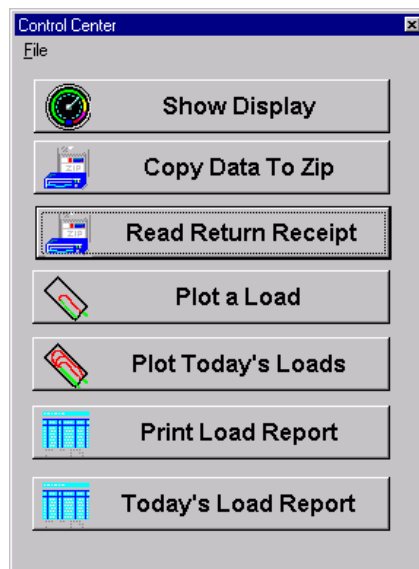

Figure 3.1 Control Center window
1. Click on **Control Center** in the windows start menu to bring up the control center window as shown in Figure 3.1.
3. Click on **Control Center** in the windows start menu to bring up the control center window as shown in Figure 3.1.